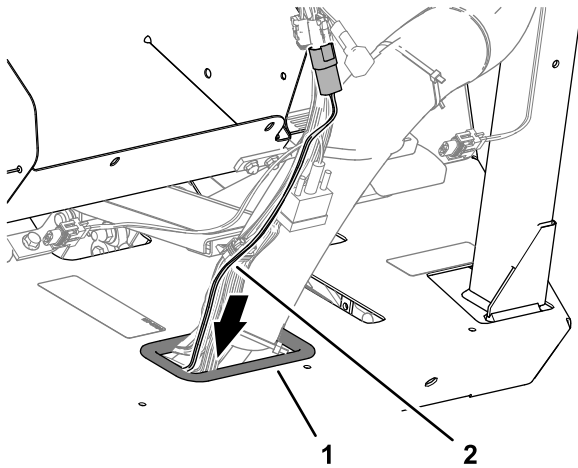

Figure 169
1. Route the other end of the ISO-CAN bus harness through the grommet of the floor (Figure 169).